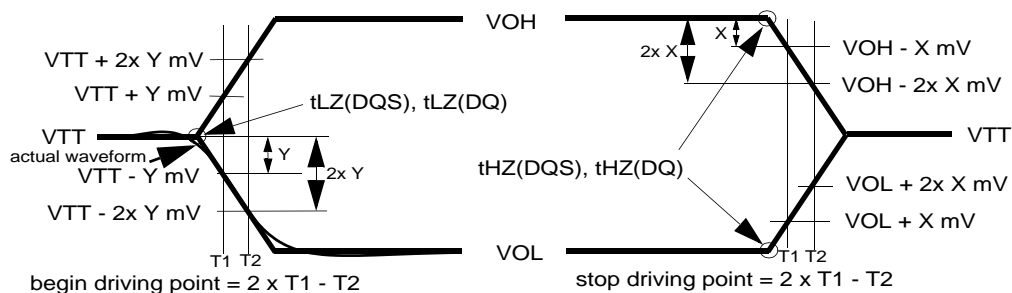

Figure 1 — tLZ and tHZ Method for Calculating Transition and Endpoints
12. For low-to-high and high-to-low transitions the timing reference will be at the point when the signal crosses VTT. tHZ and tLZ transitions occur in the same access time (with respect to clock) as valid data transitions. These parameters are not referenced to a specific voltage level but to the time when the device output is no longer driving (for tRPST, tHZ(DQS) and tHZ(DQ)), or begins driving (for tRPRE, tLZ(DQS), tLZ(DQ)). Figure 1 shows a method to calculate the point when device is no longer driving tHZ(DQS) and tHZ(DQ), or begins driving tLZ(DQS), tLZ(DQ) by measuring the signal at two different voltages. The actual voltage measurement points are not critical as long as the calculation is consistent.